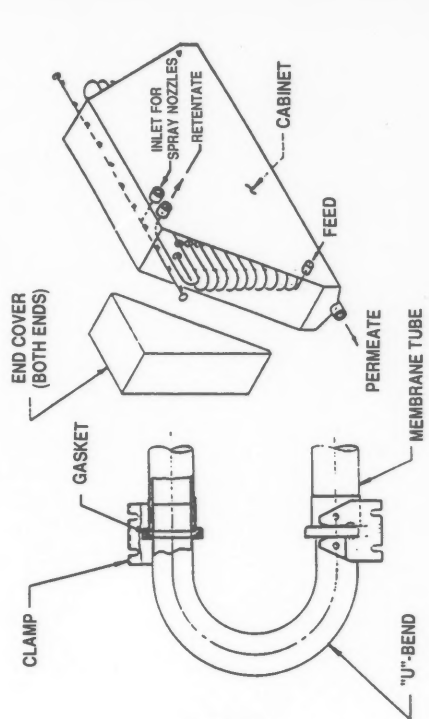

Figure F.1.1
**Large Diameter Tubes** These tubes are usually one inch in diameter and approximately ten feet long. A stainless steel ferrule at each end of the tube connects to a U-bend to join a number of tubes in series. These tubes are placed in a cabinet which contains inlet and outlet manifolds for the product to be processed. Permeate drips from the tubes and collects in the bottom of the cabinet which serves as an external shroud. Permeate is collected and pumped away for disposal or use. Cabinets are often equipped with spray nozzles to help clean and sanitize the exterior of tubes. Figure F.1.1 illustrates a large diameter tube and cabinet. The tube itself is formed from a membrane placed on a porous composite membrane support material.